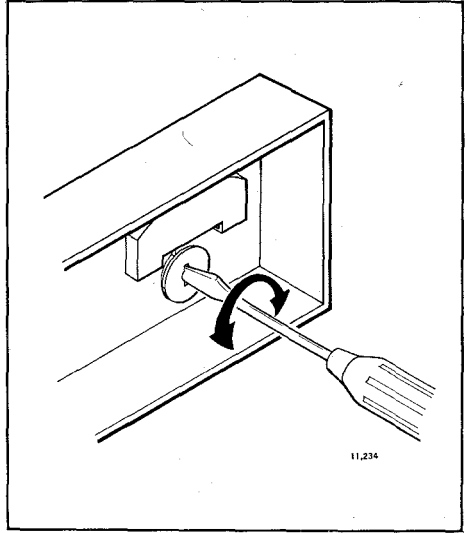

Fig. 8—Thermometer calibration.
4. Insert a small screwdriver in the thermometer shaft (Fig. 8) and turn it until the thermometers read the same. When the thermometer is calibrated, replace cover and place system into operation.